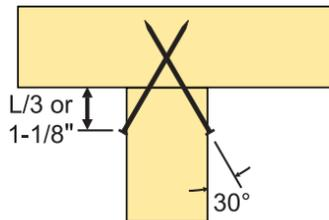

Figure 2. End jack to hip girder.
- Nominal lateral capacities are based on framing conditions depicted in Figures 2 and 3.
In both cases, the nails are assumed to be installed at either L/3 (i.e. length of nail divided by 3) or 1-1/8" from the end of the jack truss (see Figures 2 and 3 above).